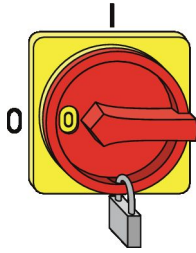

Fig. 13: Securing the mains isolator
3. ▶ Secure the mains isolator with a padlock (Fig. 13).